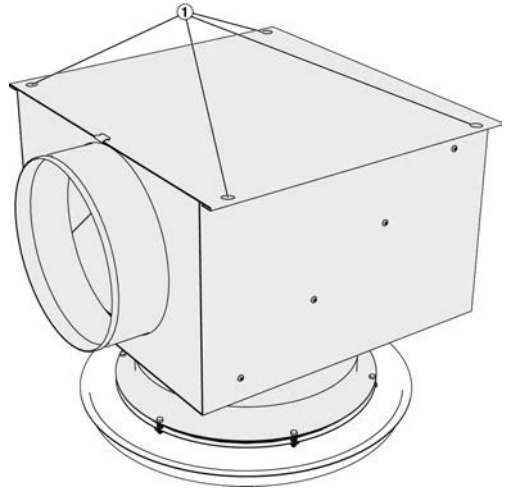

Fig. 2: Plenum box
2. ▶ Use all of the available suspension points (Fig. 2/1) on the plenum box.